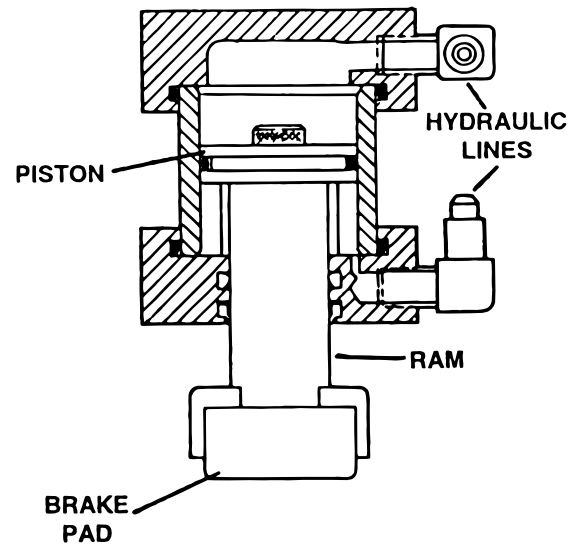

Figure 1-14. Double Action Brake Cylinder
5. Double Action Brake Cylinder (Early Table Models)- The brake cylinders are double action cylinders similar to the trendelenburg cylinder. The movable piston's ram is connected to a brake pad. Oil pumped into the top of the cylinder pushes the piston down and raises the table base off its casters. Oil pumped into the bottom of the cylinder pushes the piston up, lowering the base back onto its casters. See figure 1-14.